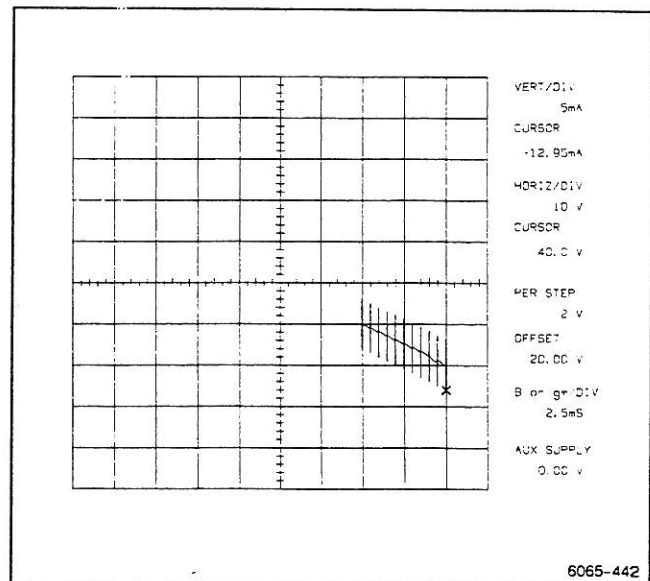

Figure 4-3. First test display for maximum current check, left collector and left base connected.
- Set the COLLECTOR SUPPLY VARIABLE control so the negative travel of the outside right vertical line of the displayed waveform extends past the second horizontal graticule line below graticule center (see Figure 4-3).
- Use the CURSOR position buttons to position the cursor dot at the bottom of the outside right vertical line of the displayed waveform (see Figure 4-3).